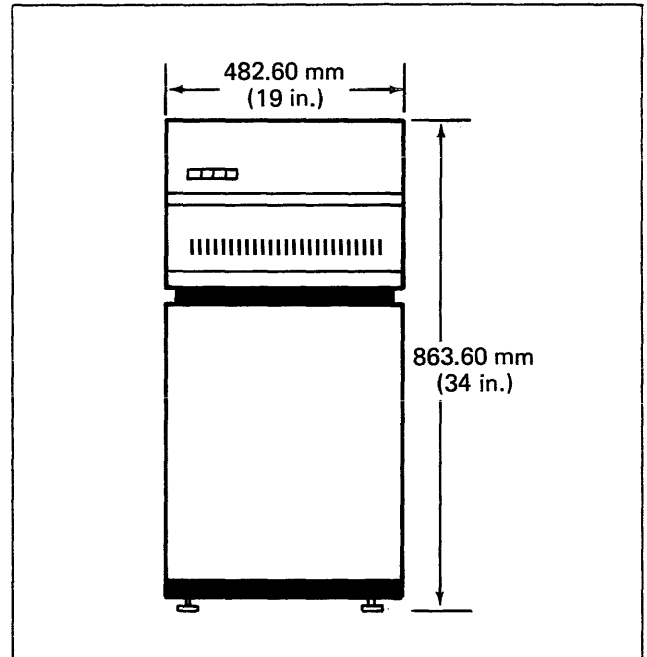

Figure 34. Dimensional Outline of Model DS10 Disk on "Quietized" Pedestal
**Disk-Mounting Pedestal.** The DS10 disk drive can be rack mounted in a desk enclosure, or it can be mounted in a freestanding "quietized" pedestal, as shown in figure 34. The pedestal mount offers several advantages including (1) easy access to the top-loading disk drive at a convenient height, (2) reduction in audible noise due to the acoustic-suppression materials in the pedestal, and (3) freeing of desk-enclosure space for mounting other equipment.